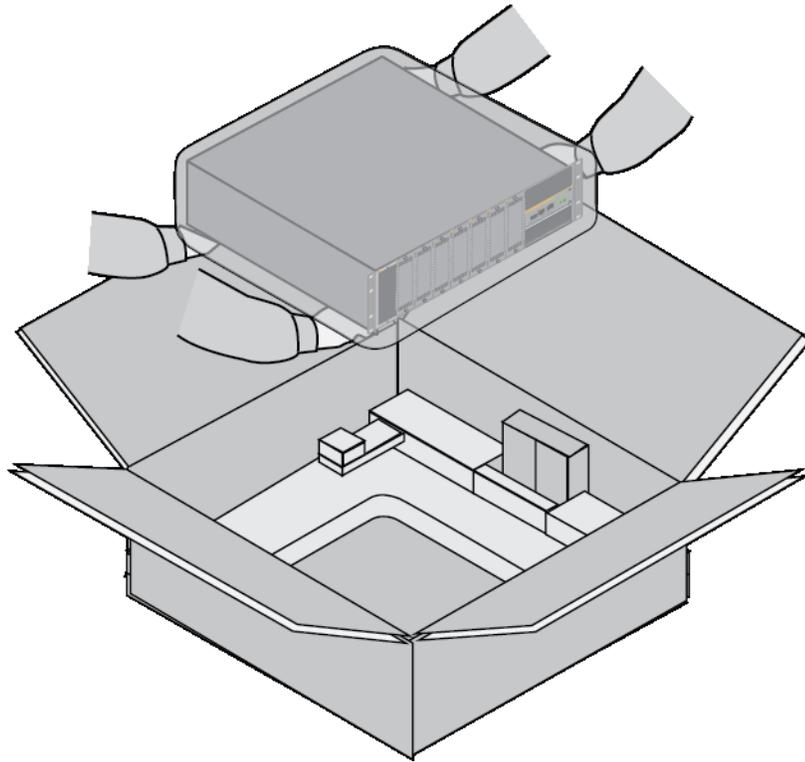

Figure 31. Lifting the Switch from the Shipping Box
1. Lift the switch from the shipping box and place it on a level, secure table. Refer to Figure 31 on page 84.